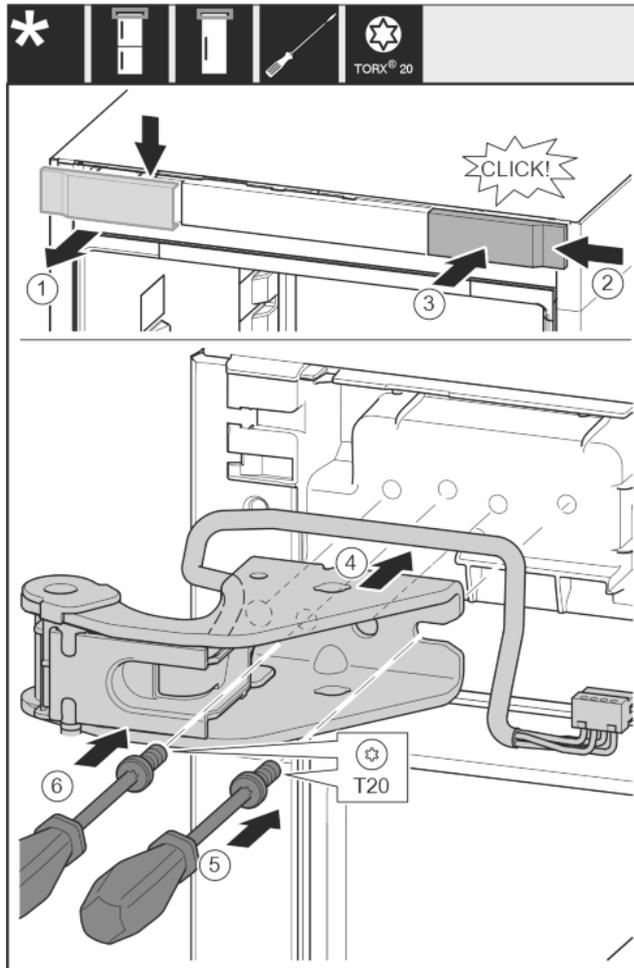

Fig. 25
- ▶ Take off the cover from above to the front. Fig. 25 (1)
- ▶ Rotate the cover 180° and clip onto the other side from the right. Fig. 25 (2)
- ▶ Latch the cover into place. Fig. 25 (3)
- ▶ Position the upper bearing bracket. Fig. 25 (4)
- ▶ Insert the screw with a T20 screwdriver and tighten it. Fig. 25 (5)
- ▶ Insert the screw with a T20 screwdriver and tighten it. Fig. 25 (6)